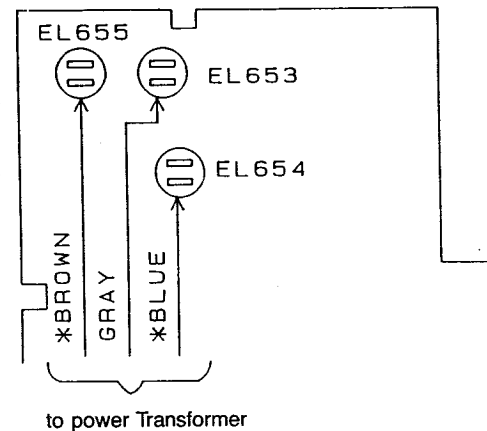

Fig.2
2. Solder Brown lead wire from Power Transformer to Terminal EL655 (see Figure 2).